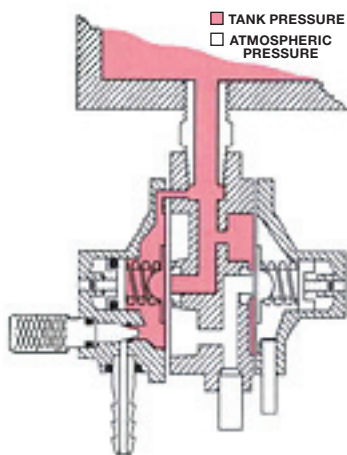

FIGURE 1
1. When the vessel is operating within the limits set on the bleeder, the pressure distribution is as shown in Figure 1.